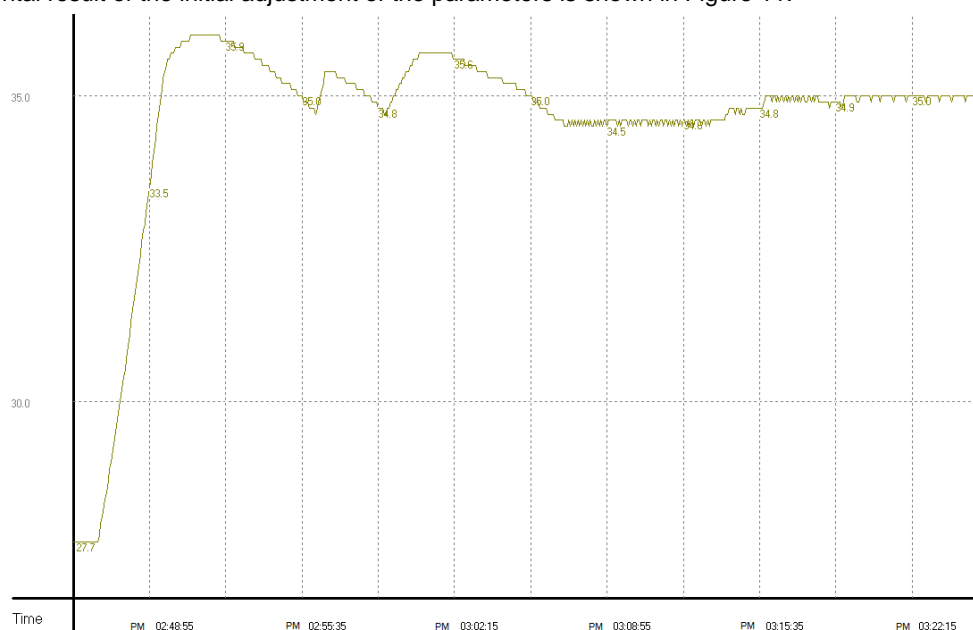

Figure 11
- ◆ When the temperature remains 35°C, the best PID temperature control parameters (the K_P in D200, the K_I in D201, and the K_D in D202) are automatically calculated. The experimental result is shown in Figure 11.
The experimental result of the initial adjustment of the parameters is shown in Figure 11.